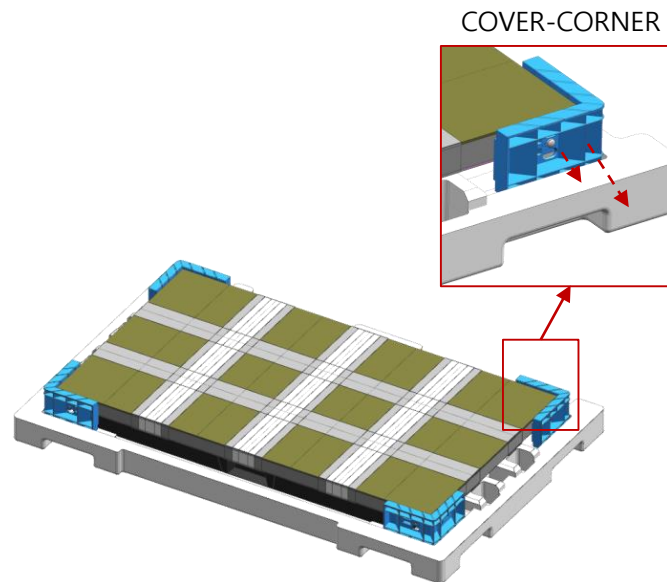

Fig.5 Removal of COVER-CORNER
- ⑤ Unscrew COVER-CORNER Screw (total 4EA). (Fig.5)